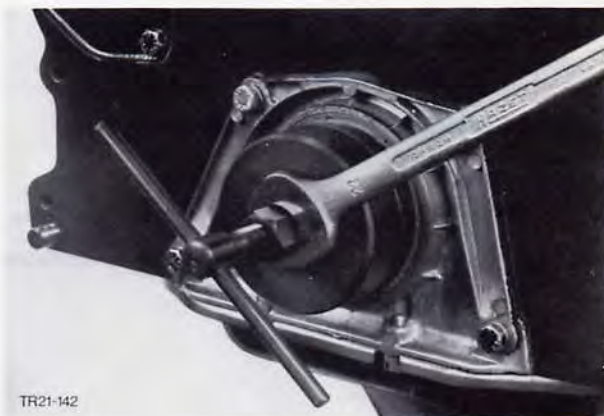

Fig. 157. Remove crankshaft oil seal using Special Tool 21-010
3. Remove crankshaft oil seal using Special Tool 21-010, Fig. 157.